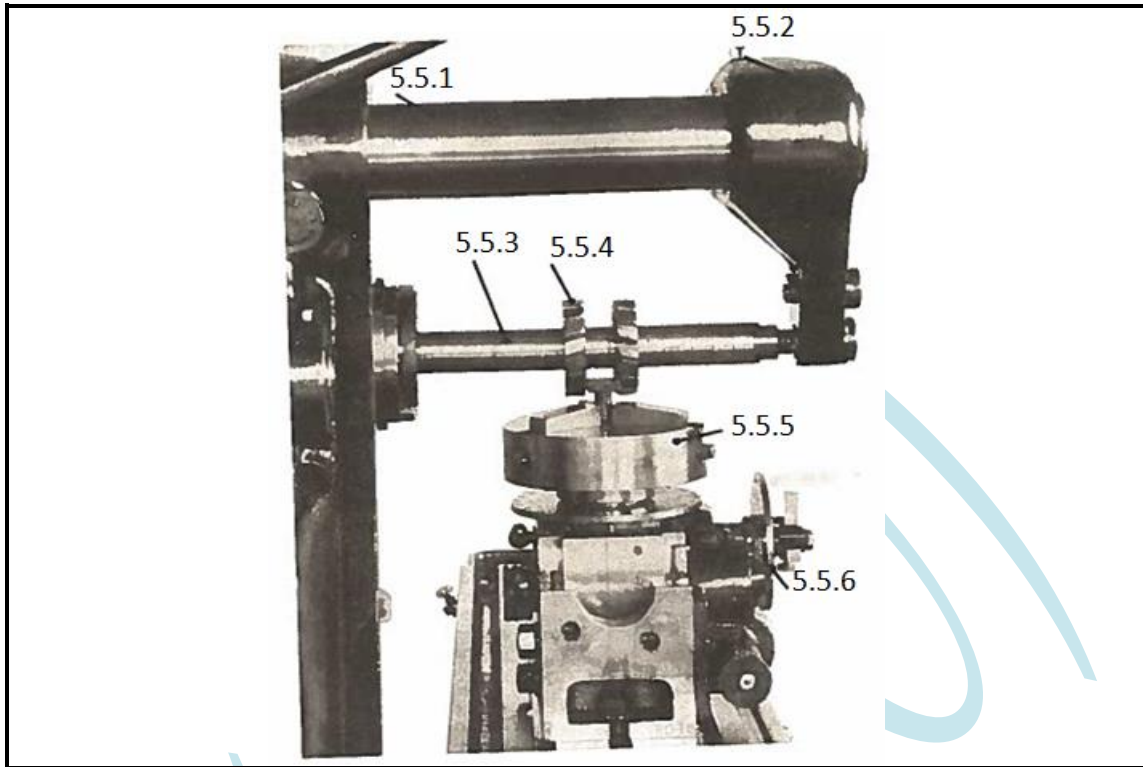

FIGURE 5
5.5 FIGURE 5 below shows a work-piece mounted on a milling machine using a dividing head. Identify the components numbered 5.5.1–5.5.6. Write only the answer next to the question number (5.5.1–5.5.6) in the ANSWER BOOK.
5.6 Name the machining operation that is being performed in FIGURE 5.